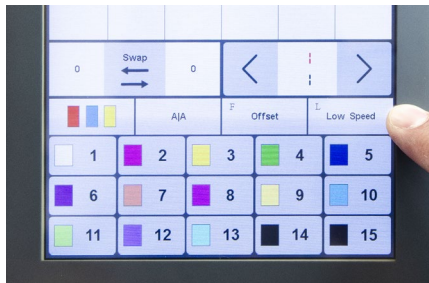

Figure 88
- Select the Low Speed key. **See Figure 88.**